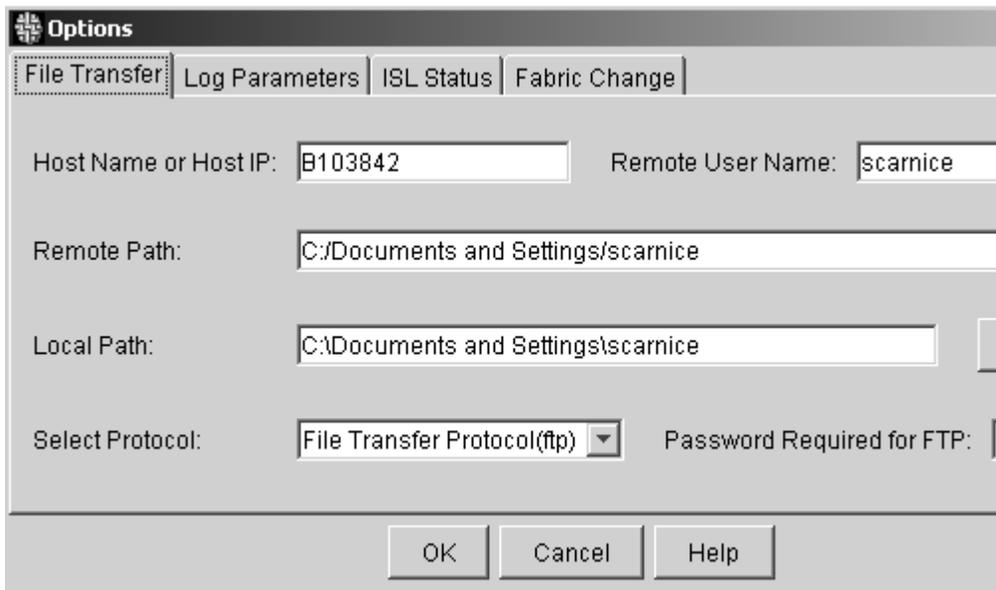

Figure 4–4: File Transfer tab of the Options dialog box
2. Click **File Transfer** tab. The **File Transfer** tab displays, as shown in Figure 4–4.